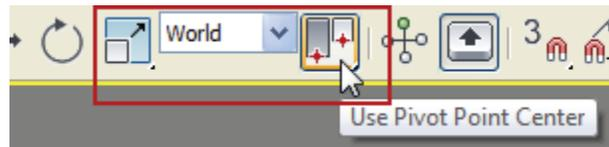

Figure 3–16
2. In the Main toolbar, set the *Reference Coordinate System* to **World** by selecting it from the drop-down list and click  (Use Pivot Point Center), as shown in Figure 3–16.